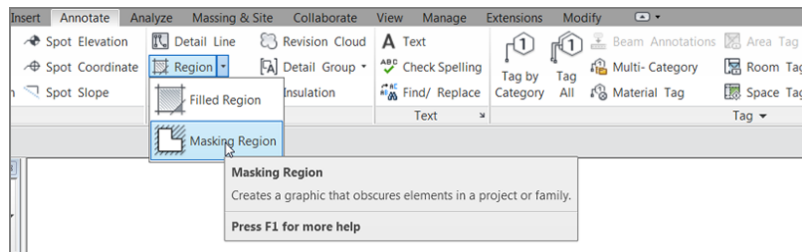

FIGURE 12.4: Creating a masking region
2. On the Detail panel of the Annotate tab, click Region > Masking Region, as shown in Figure 12.4.